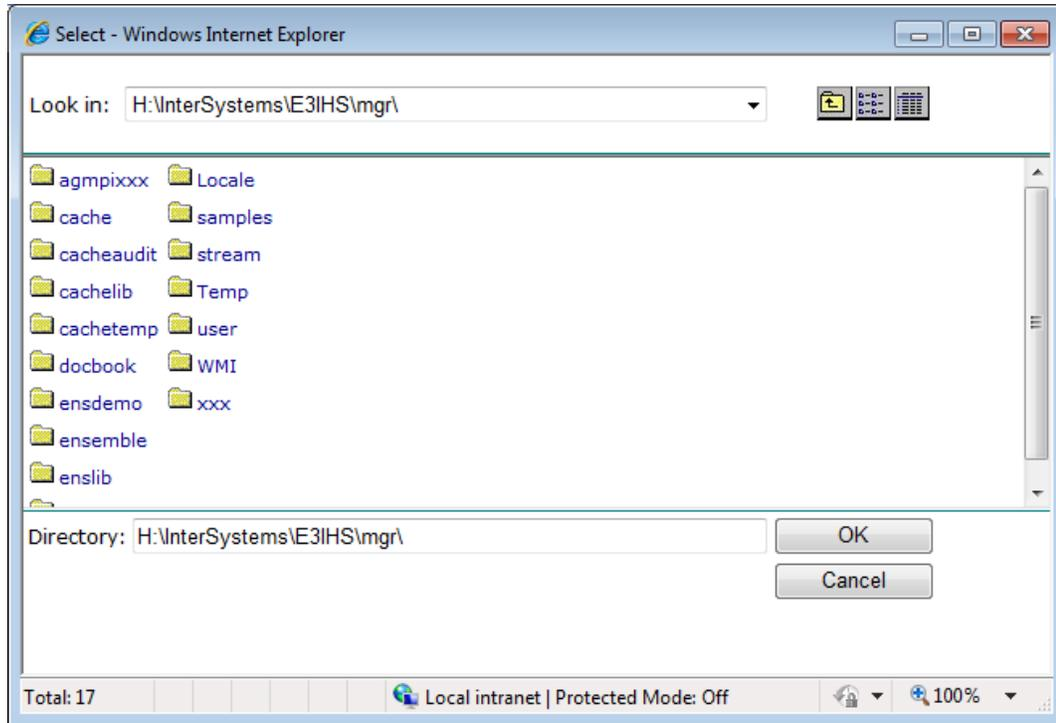

Figure 4-7: Selecting the correct database directory in the Select window
9. Click **Browse...** to open the **Select** window, as shown in Figure 4-7.